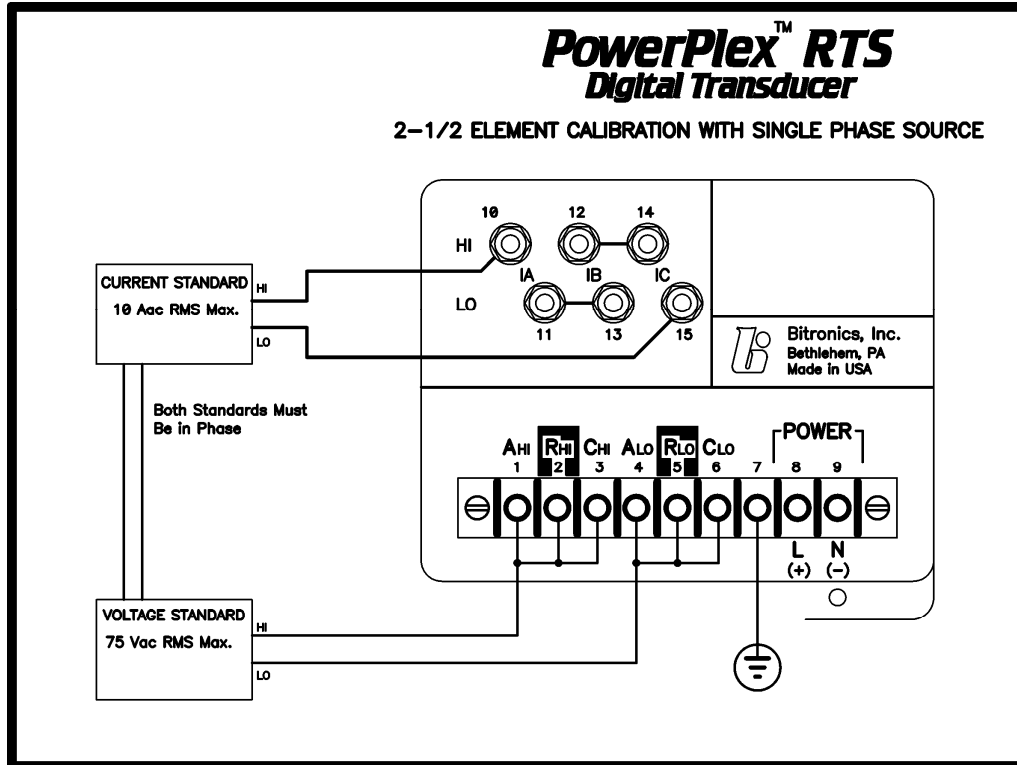

Figure 8 - Connection diagram for testing 2½-Element (WYE) PowerPlex RTS MTWIN4B with Single Phase Source.
- 2b. When units set to 2½ Element (WYE) Mode are connected to a single phase voltage source, they should be connected as shown in Fig 8. Note that the internally generated phase B voltage will be the sum of phase A and phase C. The input voltage should be kept below 75V ac in this single phase configuration, in
order to keep from exceeding the 150V ac maximum input level on phase B. Additionally, when testing single phase, the phase B current should be reversed as shown in Figure 8 to keep the phase B Watts value the same polarity as phase A and C. Note that with this configuration, the total WATTs and VARs will be 4X the per-phase input value. The Neutral (Residual) Current (in 2½ Element Mode only) is the sum of the three-phase currents. In a single phase configuration the currents will all add in phase, therefore when testing single phase, the phase B current should be reversed as shown. This will yield a Residual (Neutral) current of 5Aac if the Phase currents are all 5A ac ($I_a - I_b + I_c$). These restrictions are only for single phase testing.